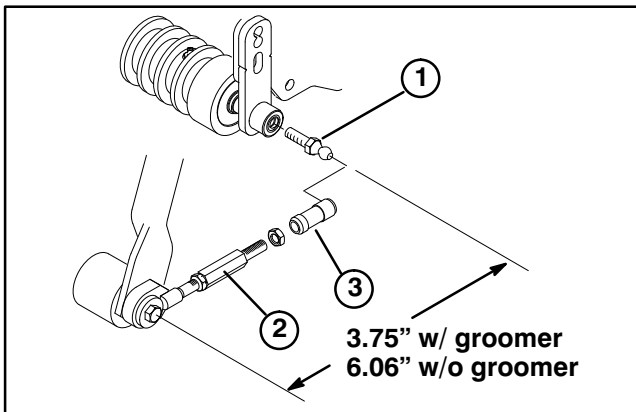

Figure 4
1. Thread a ball stud into each end of cutting unit front roller (Fig. 4).
3. Slide sleeve back on each ball joint receiver and hook onto cutting unit ball studs (Fig. 4).
Note: Pull link assemblies are pre-set at the factory. If they ever need to be disassembled, re-assemble to the dimensions shown in figure 4.